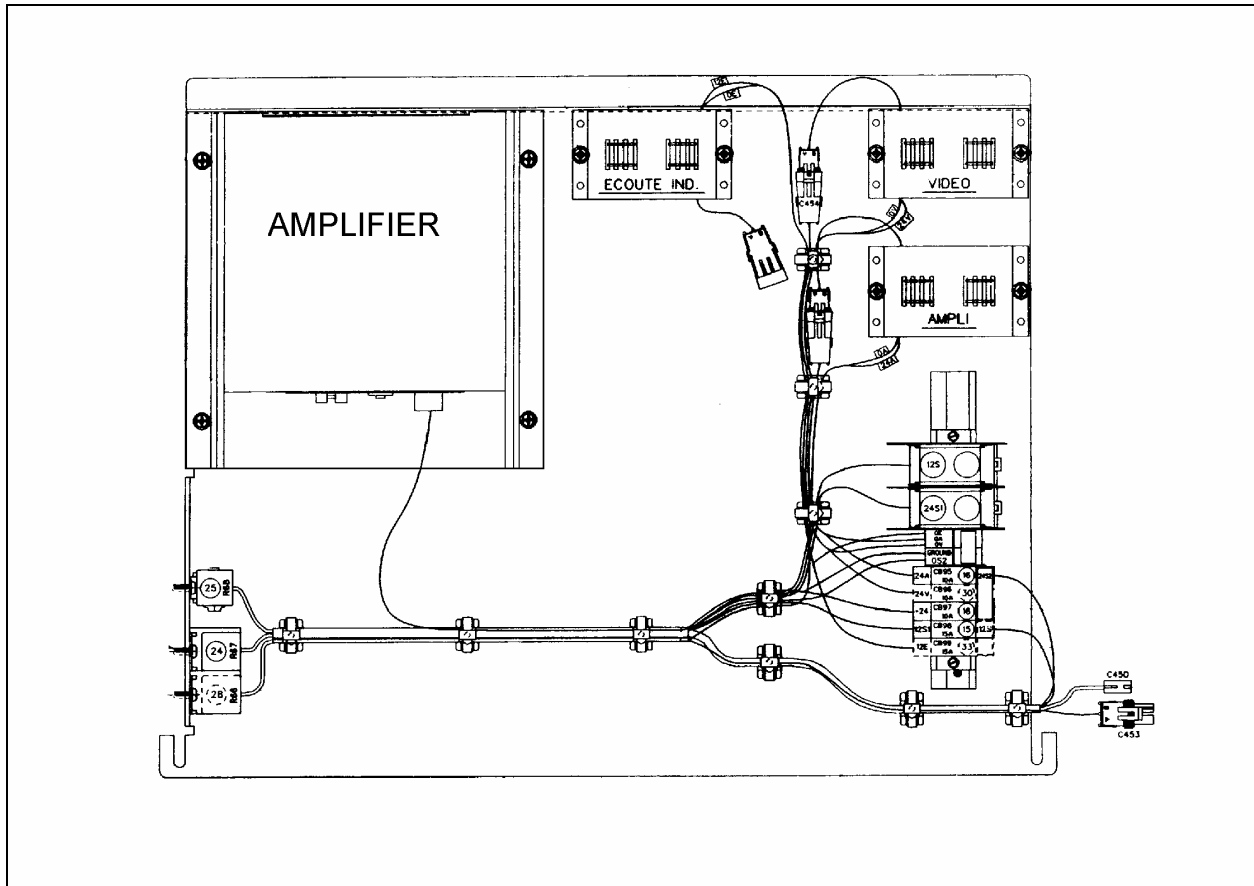

FIGURE 1: SOUND SYSTEM JUNCTION PLATE
The power amplifier is mounted on a sound system junction plate which is located over the front wheel housing (Fig. 1), to access, open the first baggage compartment. In addition to the public address (PA) systems, options for AM/FM stereo radio and cassette player, CD changer, karaoke, wireless microphone, video system with monitors, scenic viewer and digital processor controller may be featured.